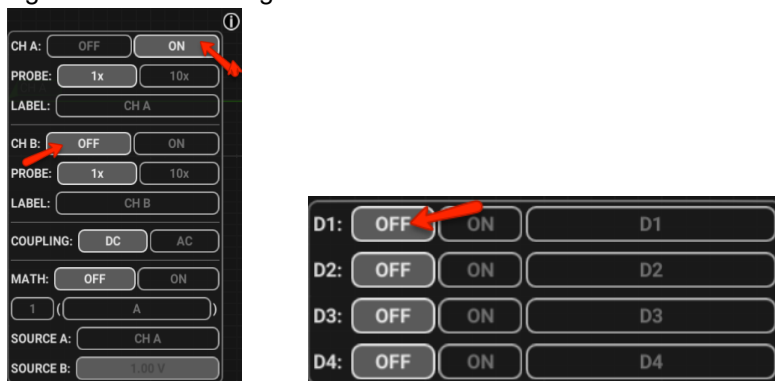

Figure 4: Analog channel controls (left) and Digital channel controls (right). Check to make sure your settings match these before moving on with this exercise.
1. Locate the toolbar and select the Analog channel  button on the menu bar. Channels can be turned either on or off by selecting the on or off button. Leave channel A turned on and turn channel B off, leave all other setting as is for this portion of the exercise (See figure 4)
2. Open the Digital channel menu . For this exercise, we will not be using this functionality so turn off the digital channels see figure 4: